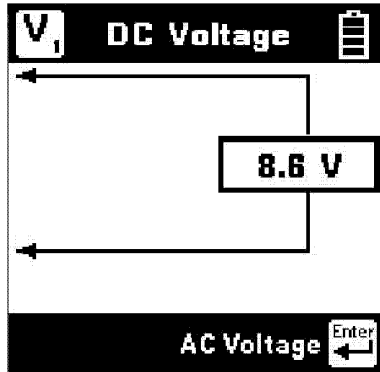

Figure 8. AST900 DC Voltage Display
30. 900AST VOLTAGE (Figures 8 and 9.)
- b. Connect the red and black test leads as shown on the display in Figure 8.
- c. View the DC voltage measurement value in the display. (See Figure 8).